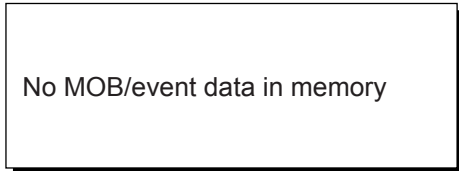

Figure 5-8
**Note:** This operation cannot be performed when there is no MOB position or event position. The buzzer sounds and the message shown in Figure 5-8 appears to alert you when there is no MOB position or event position.